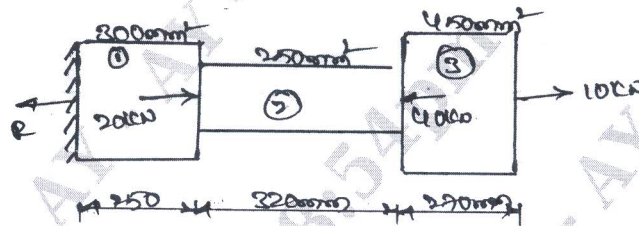

Fig Q1(c)
- c. A stepped bar with three different, portions has a fixed support at one end. The stepped bar subjected to force as shown in Fig Q1(c). Determine the stresses and deformation induced in each portion, Also find the total deformation induced in the bar.